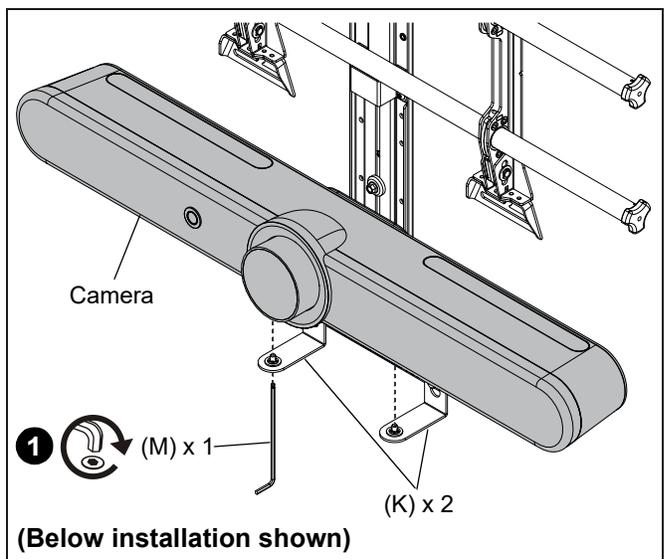

Figure 19
1. Place Rally Bar/Rally Bar Mini camera over interface assemblies (K) and thread screws into base of camera. (See Figure 19)